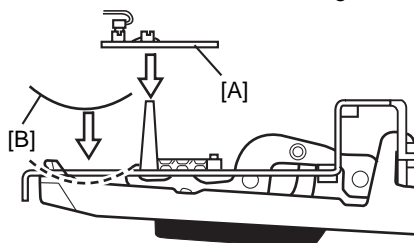

Fig.14
- 14-5 Attach the key spring marked [B], and then place the circuit board marked [A]. (Fig. 14)